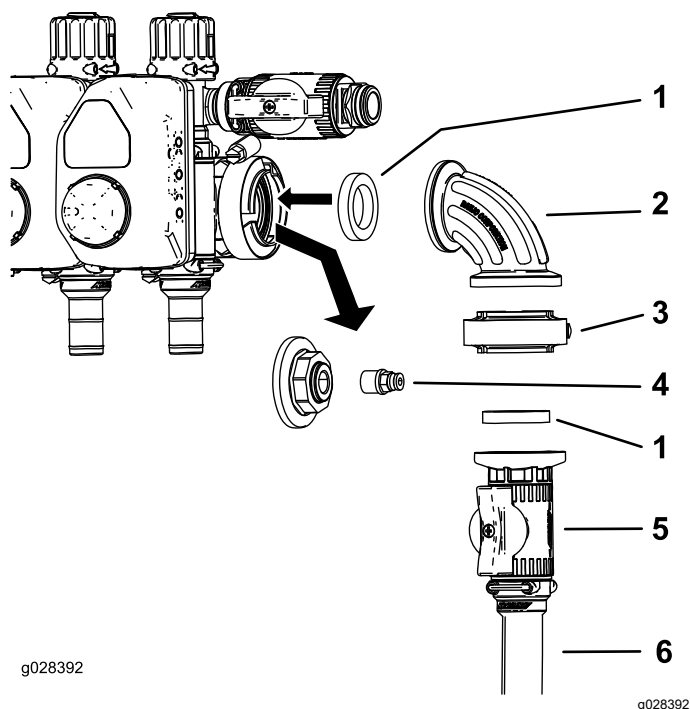

Figure 13
8. Disconnect the cap and coupler from the pressure-gauge port (Figure 13).
9. Install the control-valve assembly as shown in Figure 13.
10. Install the coupler into the open port on the 90-degree fitting (Figure 13).